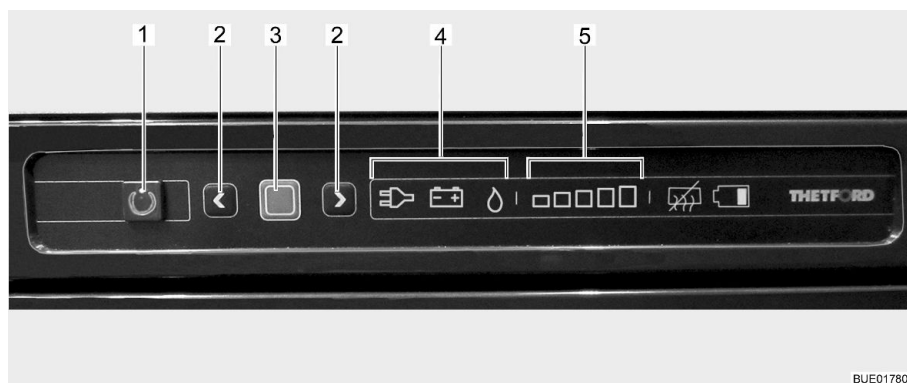

Fig. 93 Operating controls for the refrigerator
The current operating mode is indicated by an illuminated symbol (Fig. 93,4) on the operating unit.
When turned on the refrigerator automatically selects the thermostat position selected last. This position can be adjusted manually by using the arrow keys (Fig. 93,2). The illuminated bars of the cooling level indicator (Fig. 93,5) show the selected thermostat position. The refrigerating temperature for the three types of energy is set with the arrow keys. It takes a few hours till the refrigerator reaches its normal operating temperature. When changing over the operating mode the thermostat setting will be maintained. The refrigerating temperature is retained regardless of the type of energy being used.
- Press and hold the On/Off button (Fig. 93,1) for 1 second. Button (Fig. 93,1) lights up green. To save energy, after approximately 10 seconds the display is dimmed.
- Press and hold the confirmation button (Fig. 93,3) for about 2 seconds. The symbols for the operating modes (Fig. 93,4) are flashing.
- Press the arrow keys (Fig. 93,2) to change the operating mode.
- For gas operation, select the operating mode Gas using the arrow keys (Fig. 93,2). Gas supply is open. Ignition will take place automatically. A ticking sound can be heard until ignition has been completed successfully.
- Press confirmation button (Fig. 93,3).
- Press confirmation button (Fig. 93,3) again. The current cooling level is shown by the illuminated bars (Fig. 93,5).
- To change the setting, press the arrow keys (Fig. 93,2) until the desired setting is displayed.
- Press and hold the On/Off button (Fig. 93,1) for about 2 seconds. All lights go out. Refrigerator is switched off.